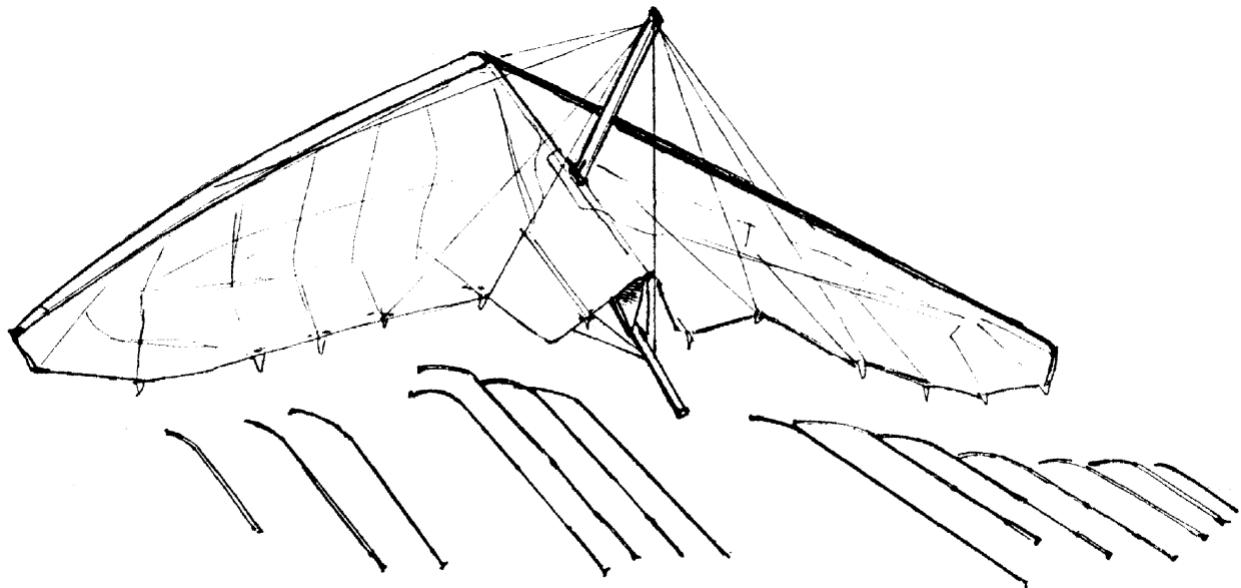

Fig. 24
2.2.4. Remove the bag and the Velcro straps. Spread the wings so, that the sail is little sagged and the glider is resting on the consoles and on the keel tube (Fig. 24).
2.2.6. Remove the battens from the bag. Lay those on the ground for each wing separately in decreasing order of length (see Fig. 24). Insert battens into the battens pockets.